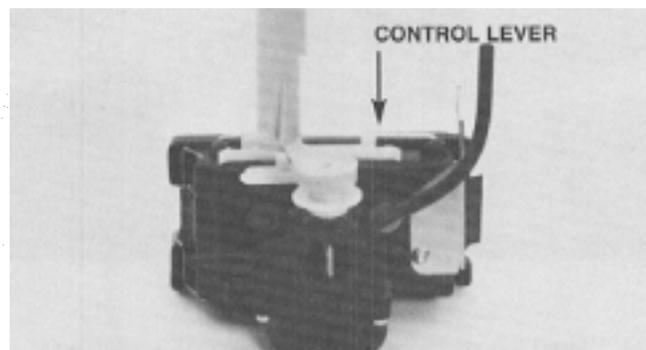

Figure 34
8. Slide the white plastic control lever to either end of its adjustment and snap it to the locked position to help restrict its movement while you disconnect the throttle cable from the control lever (**Figure 34**).